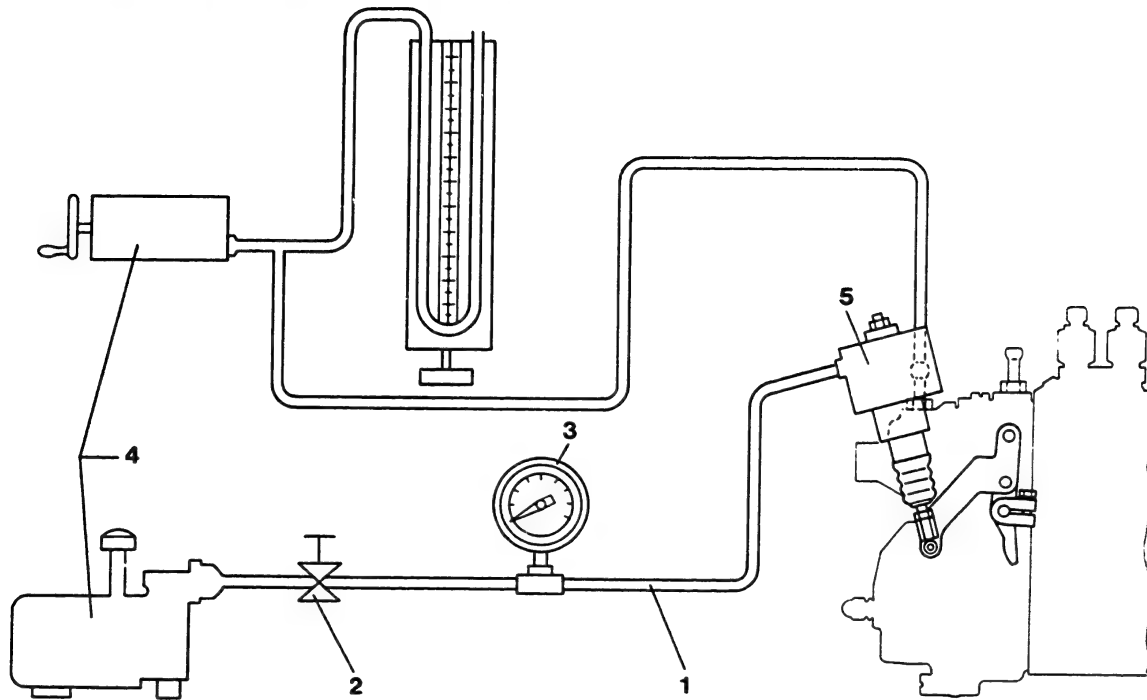

Fig. 83 Aneroid compensator adjustment piping
-1. Piping should be as shown in Fig. 83.
Note: The piping for the aneroid compensator shown in Fig. 83 is not required.